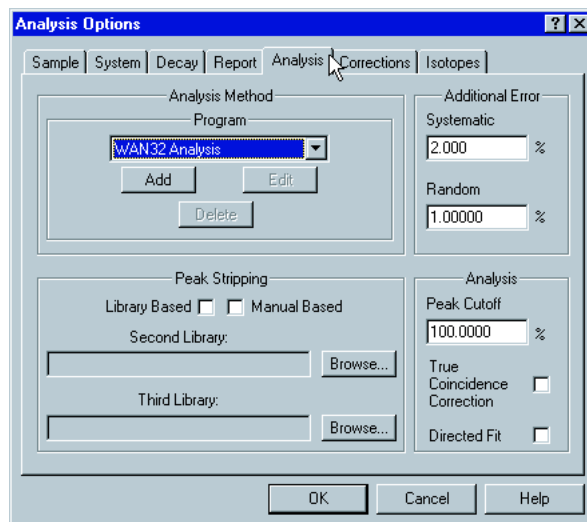

Fig. 40
- Complete the rest of the form as shown in Figure 40.